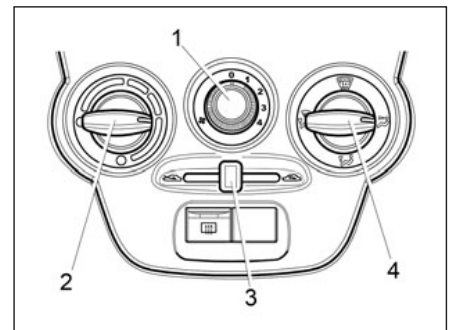
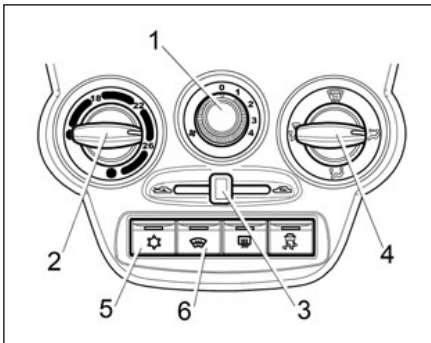

Fig. 38. Ventilation and heating system control unit
Fig. 40. Climate system control unit (in the design variant)
Heating and ventilation system is designed to create interior comfort temperature, with the value regulated by the ventilation and heating system control unit (Fig. 38). However, it should not provide the interior air temperature lower than that of the ambient air.
- **handle 2** (see Fig. 38) should be turned clockwise to the extreme right position up to stop (blue mark point on the control unit), and **in the design variant handle 2** (see Fig. 40) counter-clockwise to the extreme left position up to stop (blue mark point);
- **handle 1** (see Fig. 38) of the electric heater fan operation mode switch should be switched to the desired flow rate of air supply to the passenger compartment;
- **handle 2** (see Fig. 38) should be turned counter-clockwise to the extreme left position until it stops (red mark point on the control unit), and **in the design variant handle 2** (see Fig. 40) it should be turned clockwise to the extreme right position up to stop (red mark point);
- **handle 2** (see Fig. 38) should be turned counter-clockwise to the extreme left position until it stops (red mark point on the control unit), and **in the design variant handle 2** (see Fig. 40) should be turned clockwise to the extreme right position until it stops (red mark point);
– **handle 2** (see Fig. 38) should be turned counter-clockwise to the extreme left position up to stop (red mark point on the control unit), and **in the design variant handle 2** (see Fig. 40) – clockwise to the extreme right position up to stop (red mark point);
2. Switch on the electric fan by setting **handle 1** (Fig. 40) to one of positions 1, 2, 3 or 4.
4. Press the conditioner switch key 5 with symbol . The check light indicator located on the switch key will flash green for the duration of the air conditioner operation.
To set the desired air temperature in the passenger compartment turn **handle 2** (see Fig. 40) clockwise – for raising, counter-clockwise – for lowering the temperature. The temperature will be automatically maintained within the climate system control performance and the specified tolerance.